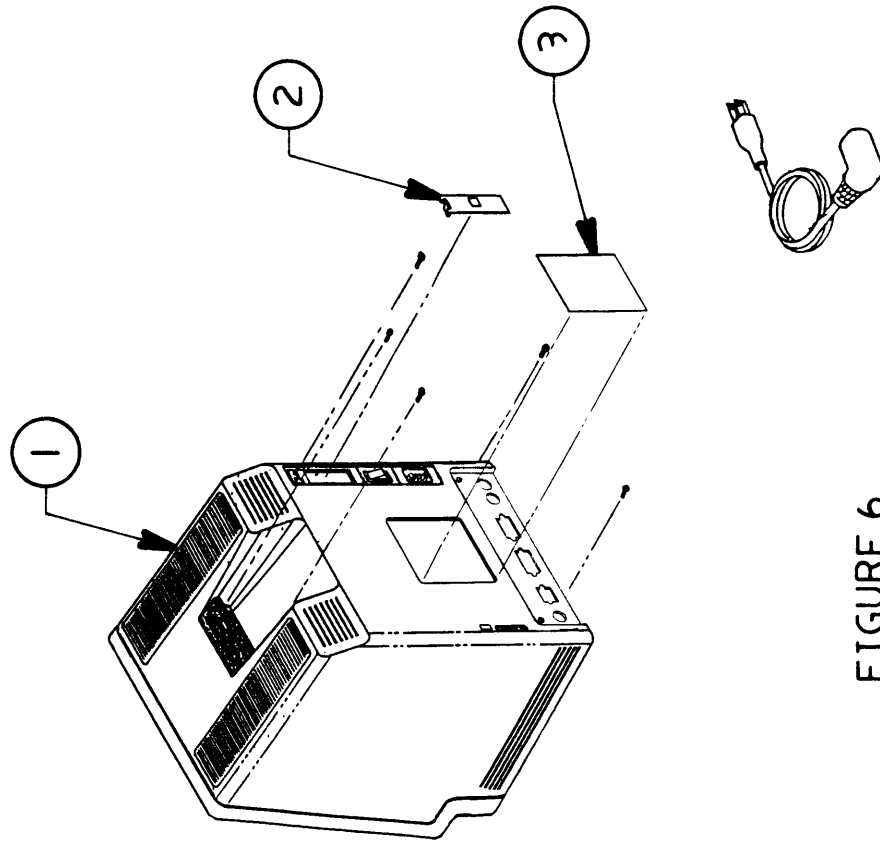

FIGURE 6
□ **MACINTOSH PLUS – REAR HOUSING (Figure 6)**